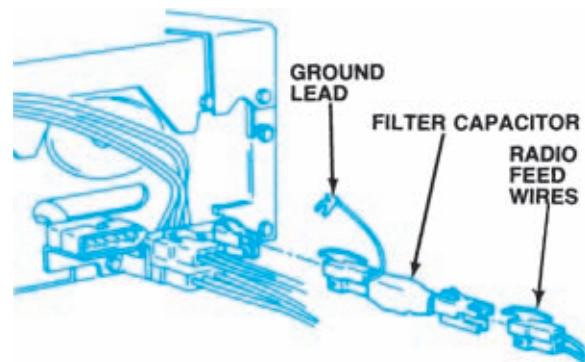

Figure 15-17. An RFI capacitor may be installed near the radio. (GM Service and Parts Operations)
- Behind the instrument panel, near the radio (Figure 15-17)